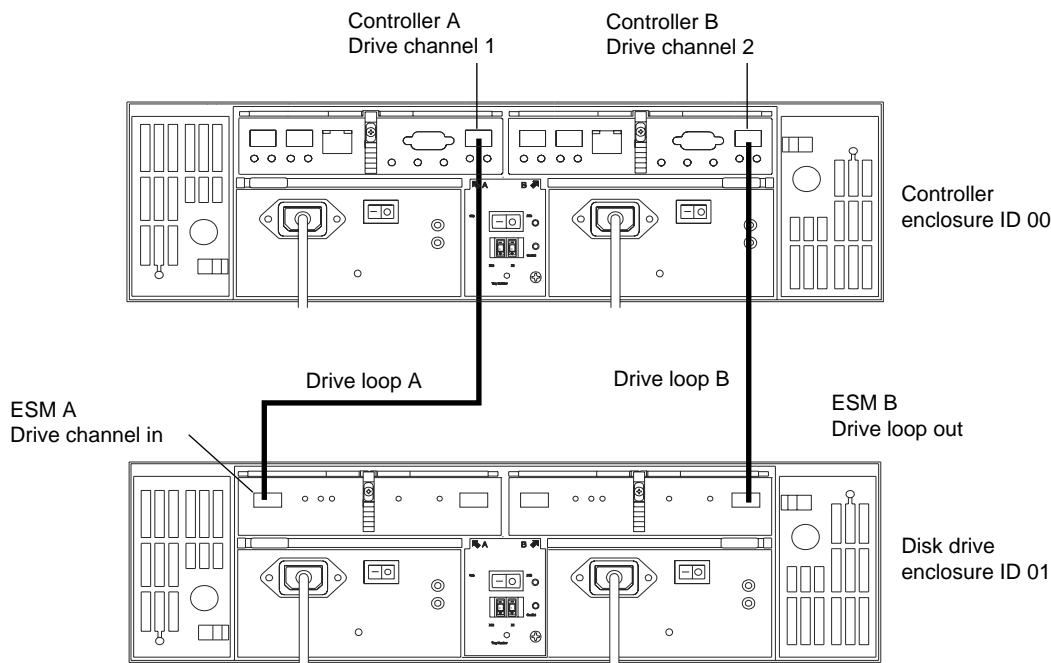

Figure 5-1 Drive Loop Cabling for Systems with Two Enclosures
1. Connect the drive loops in the first two enclosures (see Figure 5-1). Starting with the controller enclosure, connect an interface cable from the drive loop connector on the left RAID controller module to the **drive channel in** connector on the left environmental status module in the expansion enclosure.
2. Connect an interface cable from the drive loop connector on the right RAID controller module to the **drive channel out** connector on the right environmental status module in the expansion enclosure. This creates a redundant drive loop between the two enclosures (see Figure 5-1).